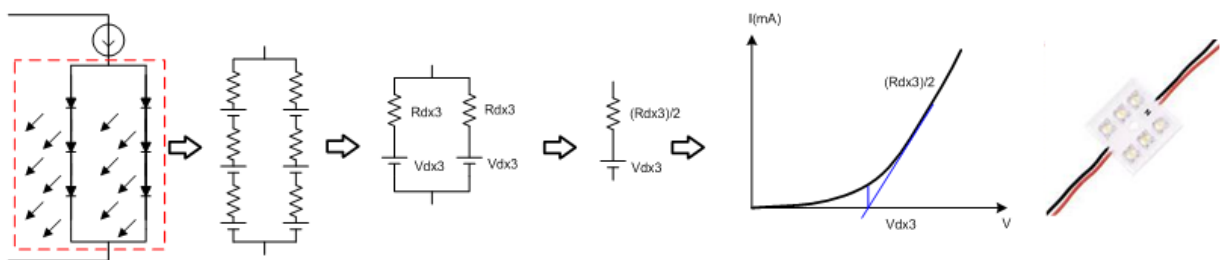

Fig 4-11 Several LED cascading and parallel connection and characteristic curve
- 1.4 In parallel connection stacks of LED: Several LED stacks in parallel connection is also Can get more output brightness, V_d also will increase as series R_d is according to the Cascade and parallel. Fig 4-11 is 2 stacks LED to parallel, are the LED's equivalent Circuit and exponential V-I characteristic curve.